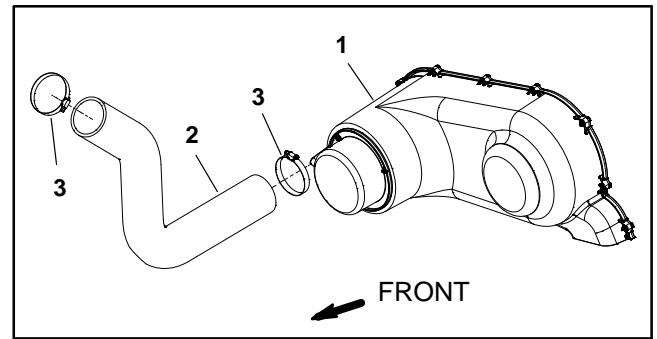

Figure 34
2. Loosen hose clamps and remove CVT intake hose from ROPS cover and CVT enclosure cover (Fig. 34).
8. Install CVT intake hose to ROPS cover and CVT enclosure cover (Fig. 34). Secure intake hose with hose clamps.